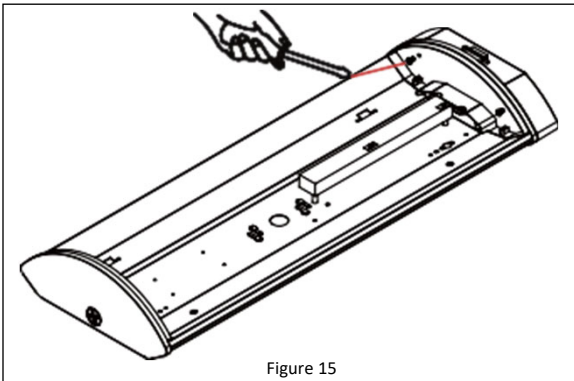

Figure 15
3. Secure the sensor endcap to the fixture using the supplied screws. **See Figure 15.**